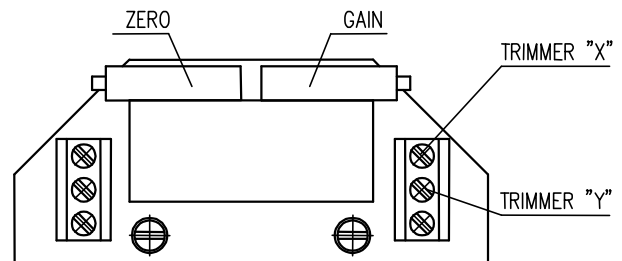

Fig. 7
### 1.2.1. EPV – 3-wire version (Fig. 7,7a)
- Adjust the resistive transmitter according to the previous chapter. The resistance is to be metered on the terminals X-Y (Fig. 7,7a). The used transmitter resistance is 2000Ω or 100 Ω.